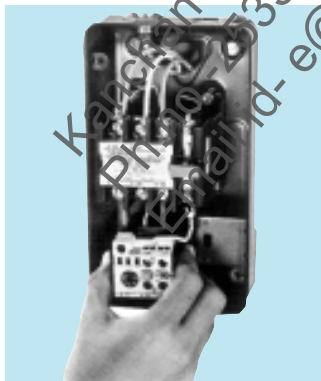

Fig. 8 Replacement of overload relay
- **Replacement of Overload Relay (Fig. 8)**